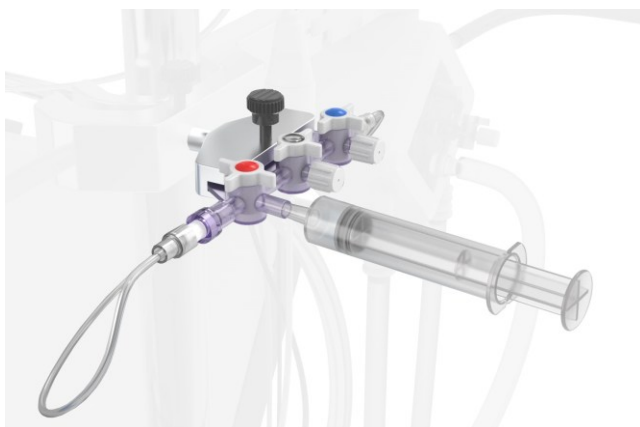

Figure 21 De-air the oxygenator via the sample line by aspirating with a syringe. Ensure that the red valve is in the orientation indicated.
- Place the syringe on the red port of the sample valve to de-air the oxygenator. Open the red valve on the sample port, see Figure 21.